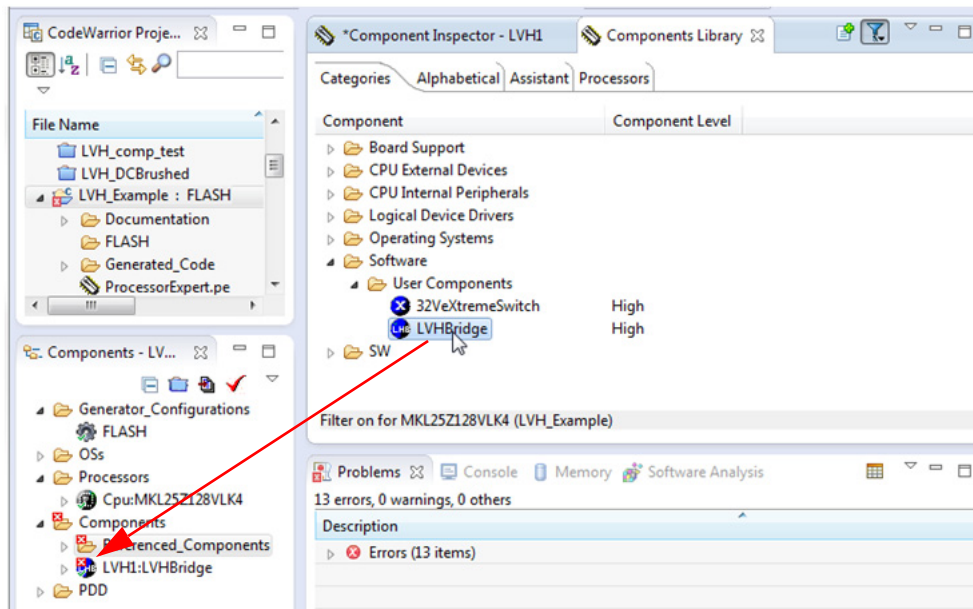

Figure 12. Add the LVHBridge component to the project
1. Find LVHBridge in the **Components Library** and add it into your project (see Figure 12).